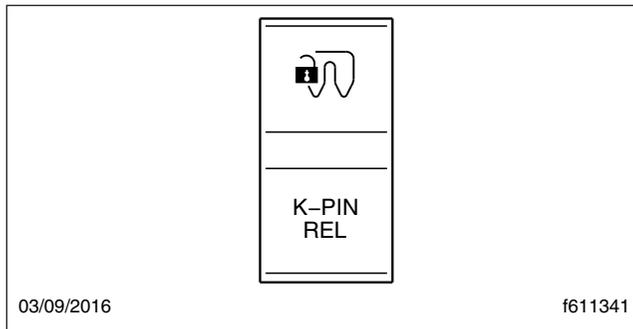

Fig. 20.9, Kingpin Release Switch
A dash-mounted kingpin release switch (if equipped) may be used to uncouple the trailer. See Fig. 20.9.
2. Push and hold the kingpin release switch (Fig. 20.9) for a minimum of 3 seconds. The system will apply air for 20 to 30 seconds to ensure the kingpin unlocks. When the kingpin is unlocked, a notification is displayed; see Fig. 20.10.